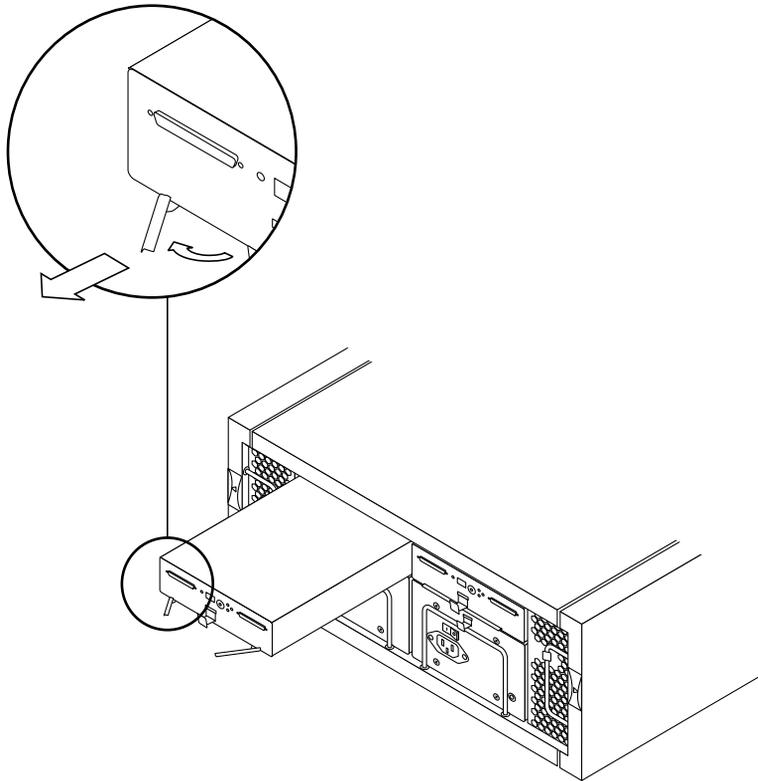

FIGURE 4-6 Pulling out the Metal Locking Bars to Release an ESM
3. **Pull out the two metal locking bars at the bottom to release the ESM (FIGURE 4-6).**